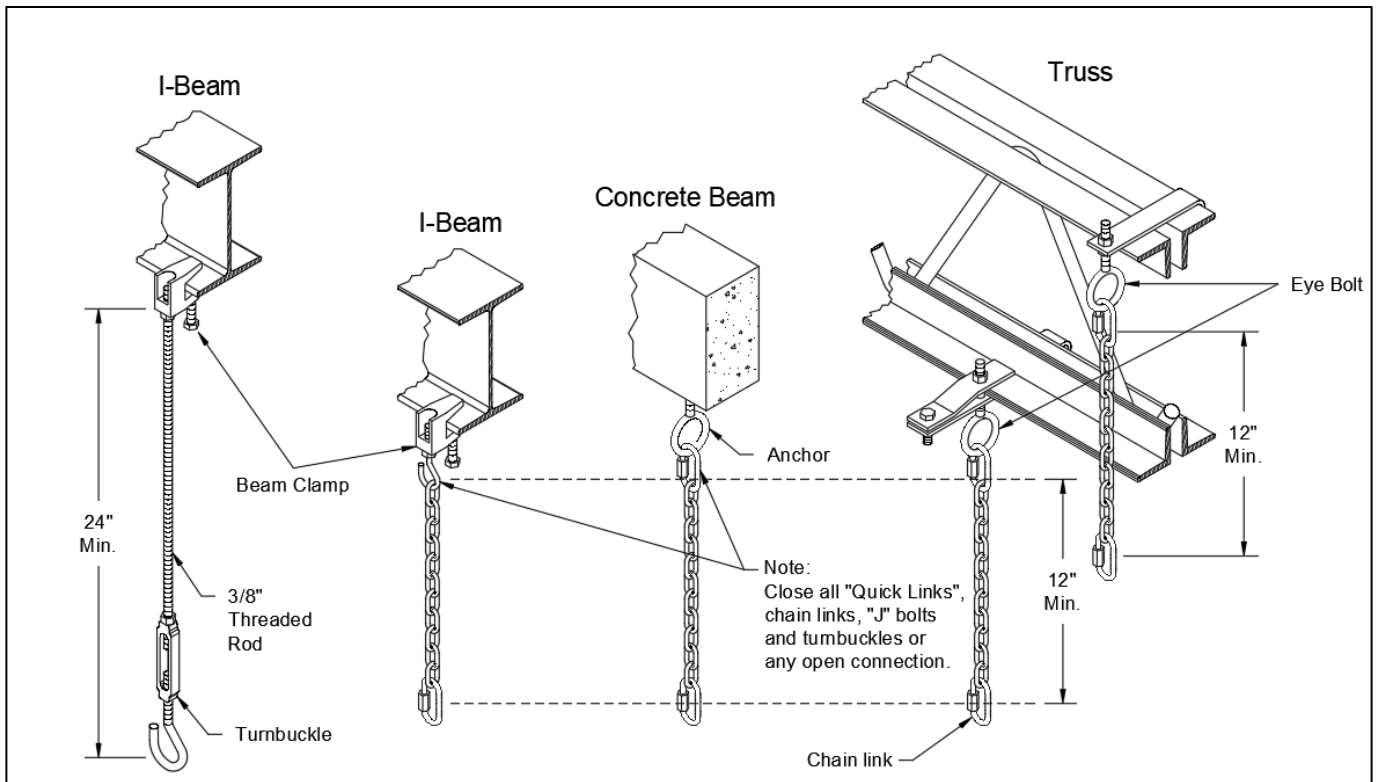
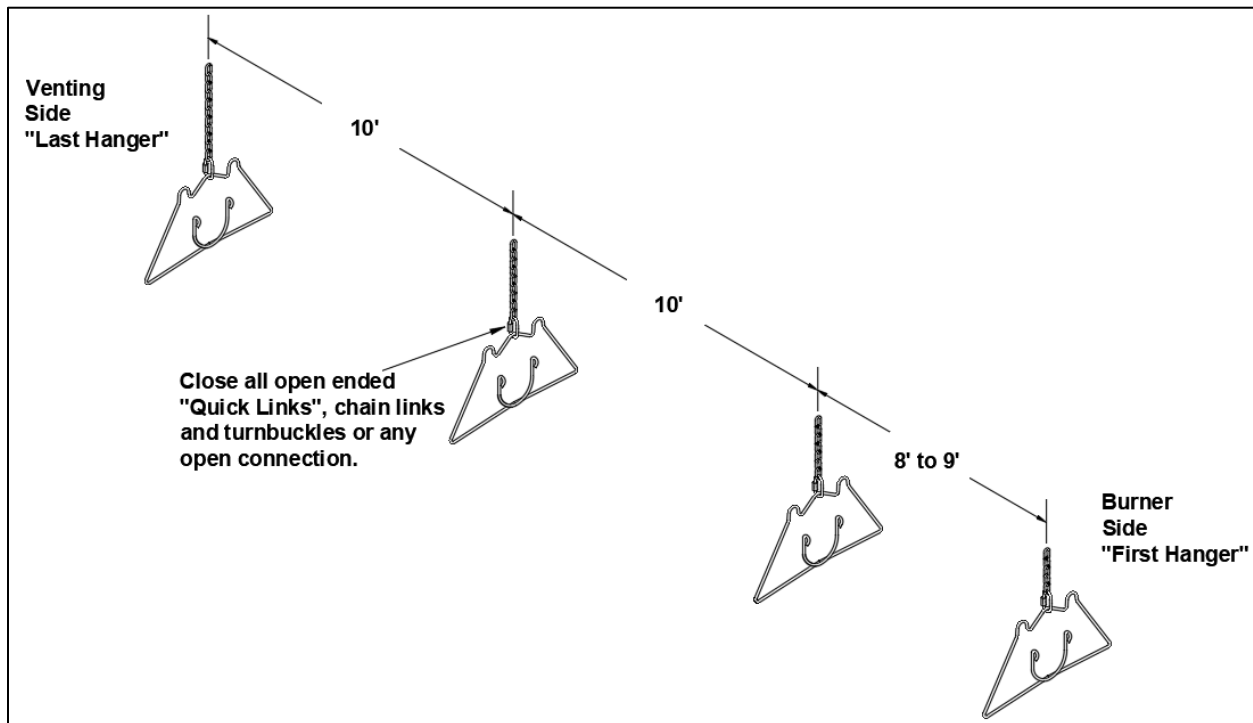

Figure 4: Suspension Mechanism
Figure 5: Typical Hanging Points
- Suspension mechanism must allow for lateral tubing expansion. A minimum 12" length welded link chain with a working load limit of at least 200 lbs. is recommended (refer to Figure 4 for more details). SRP recommends and make available "quick links" for connecting chain. If any open ended turnbuckles are used, the open ends must be closed to avoid unhooking chain with inadvertent contact.
- Locate hanging chain at predetermined suspension points in the structure. It is required that the first 2 hangers be about 8' to 9' away. Thereafter, 10' apart on average is acceptable for the remainder of the heat exchanger. At no time should hangers be more than 12' apart, (see Figure 5).
- Install the tube and reflector support hanger on the chain with “Quick Links” refer to Figure 4 & Figure 5